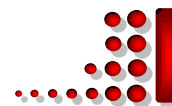

Figure 4-1: DST3 Side Panel Connections
Connections should only be made in accordance with instructions. Refer To Figure 4-1 and Table 2.
- Install the vacuum ball valve on the side panel and tighten with a wrench Figure 4-1 .Install brass nozzle connection on the inlet pump and tighten with a wrench (ensure its sealing O-ring is in it)
If required, carry out process gas connections to side panel (Refer To: Figure 4-1) with tubing and connectors provided. The connector is push-fit and will 'snap'